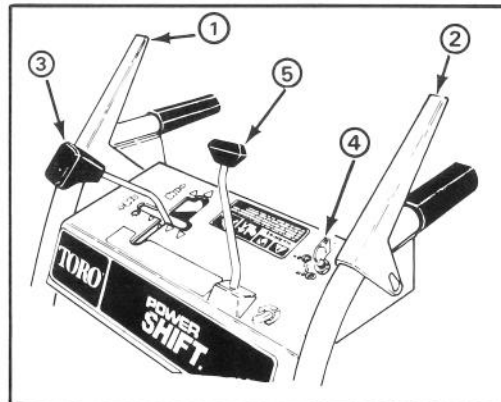

Figure 9.
Auger/Impeller Control (Fig. 9) — Control has two positions: ENGAGE and DISENGAGE. To engage auger and impeller, compress lever against right handle grip. To disengage, release lever.
Traction Drive Control (Fig. 9) — To engage traction or activate power shift system, lever must be compressed against left handle grip. To stop traction, release lever.
Speed Shift Control (Fig. 9) — The control has four speeds forward and two reverse and also controls power shifting of wheels. To select speeds, move shift control to desired position.
Auger Lock-Up: (Fig. 9) — When auger/impeller control and traction drive control are both compressed, the traction control locks the auger/impeller control down. Releasing the traction control releases the auger/impeller.
Discharge Chute Control (Fig. 9) — Rotate discharge chute control clockwise to move discharge chute to the right and counterclockwise to move chute to the left.
Ignition Switch (Fig. 9) — Switch has two positions: ON and OFF. Rotate key to ON position before starting engine. To stop engine, rotate key to OFF.
1. Move speed selector to N — neutral — and throttle to FAST (Fig. 9).
4. Rotate ignition key to ON (Fig. 9).
1. Release traction and auger/impeller drive controls (Fig. 9).